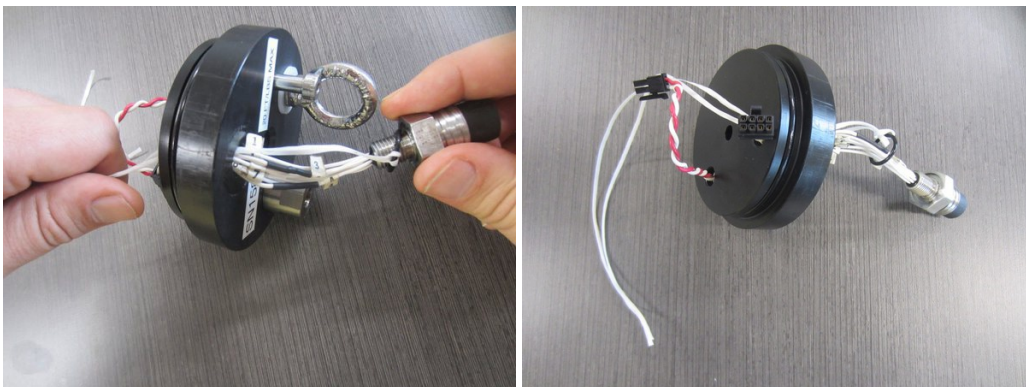

Figure 30: Removal of an O-ring from an MCBH connector (a MicroCTD is pictured).
- **Bulkhead Connector(s):** To remove the connector O-rings, thread string around the O-ring and pass both ends of the string through the threaded hole (Figure 30). Gently pull on the string to pass the O-ring through the hole and around the wiring harness. Reverse these steps to replace this O-ring.